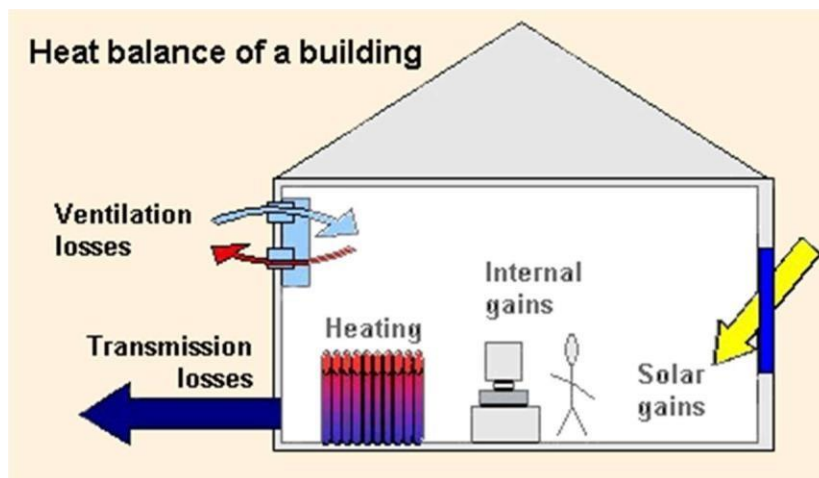

Figure 1: The 5 elements of the heat balance of a building
II. Compare the following data, make the necessary calculations, and find out the reasonable decisions for the assigned tasks. Use Figure 1 and Figure 2 below to find out the meanings of English equivalents and data graphically:
5. Find in the text five categories of heat flows. Use Figure 1: The 5 elements of the heat balance of a building